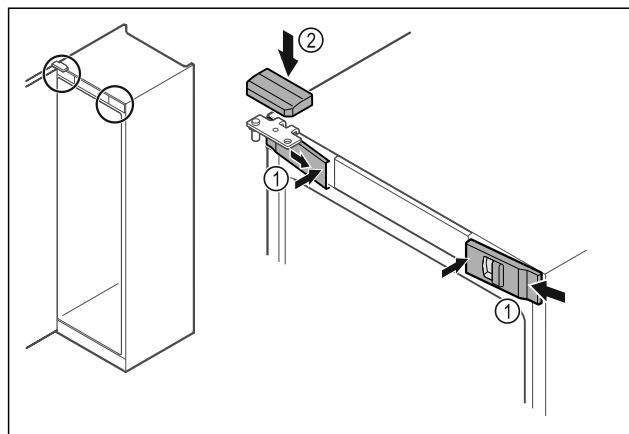

Fig. 43
- Hook in the front covers Fig. 43 (1) on the side and snap them into place on the inside.
- Snap on the top cover Fig. 43 (2) from above.